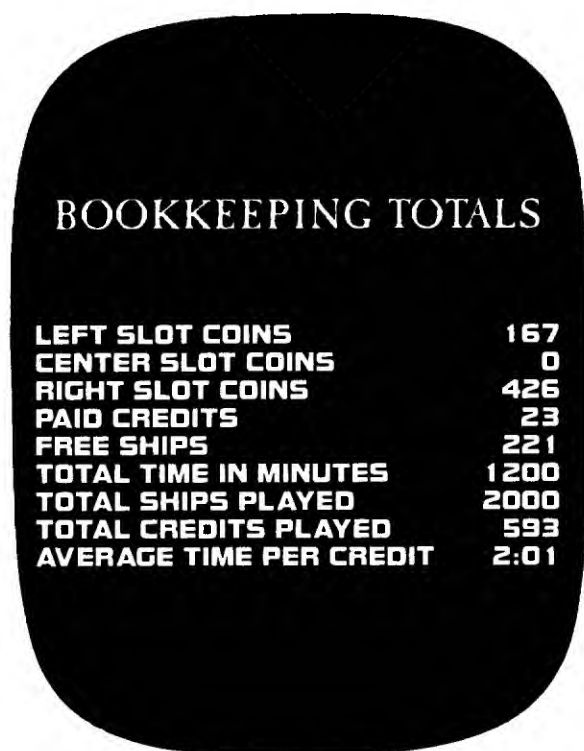

Figure 2. Bookkeeping Display
3. The bookkeeping and evaluation totals appear on the CRT as in Figure 2.
IF AVERAGE TIME PER CREDIT RUNS BELOW 1:30 (Figure 2), then more liberal **GAME ADJUSTMENTS** are recommended. What if AVERAGE TIME PER CREDIT runs over 2:30? Make the game tougher. Always try to keep AVERAGE TIME PER CREDIT close to the ideal of 2:00.